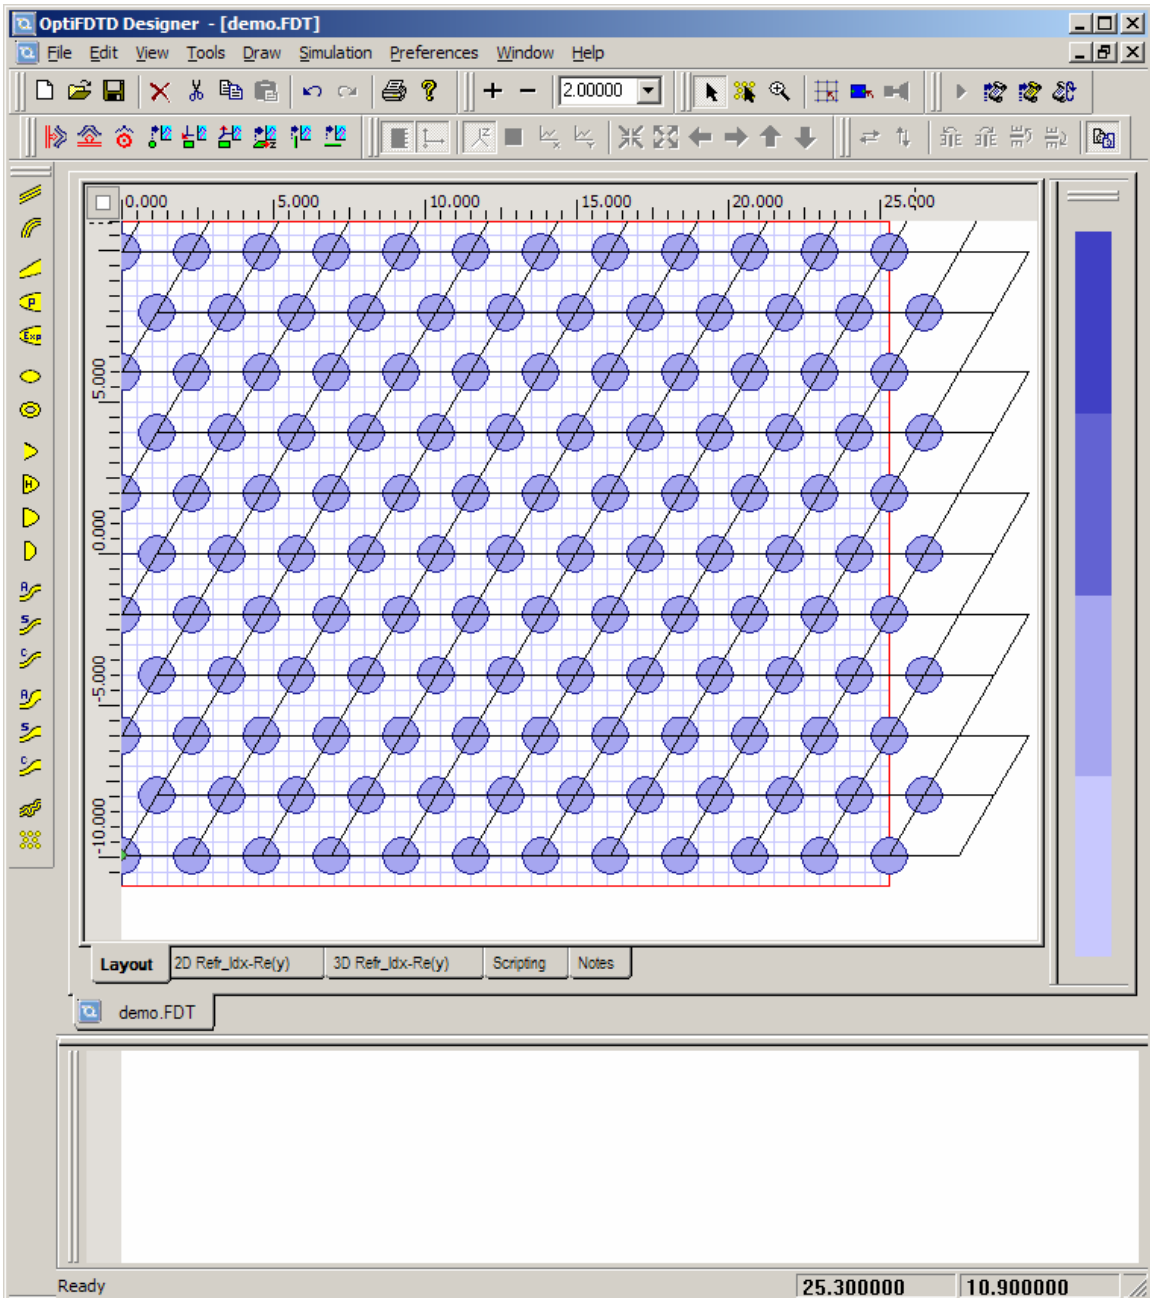

Figure 7 PBG layout in designer window
**Note:** If you close the **Crystal Lattice Properties** dialog box, you will see the defined PBG structure in the layout window (see Figure 7).